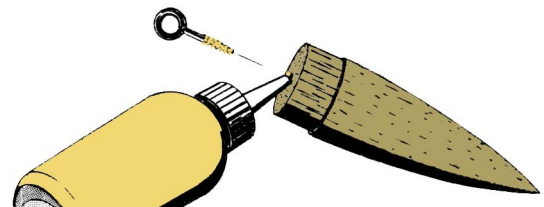

Figure 5
- **Step 5** Using the threads on the screw eye, cut a hole into the base of the nose cone, then carefully reverse the screw eye out. As shown in Fig. 5, force glue deep into